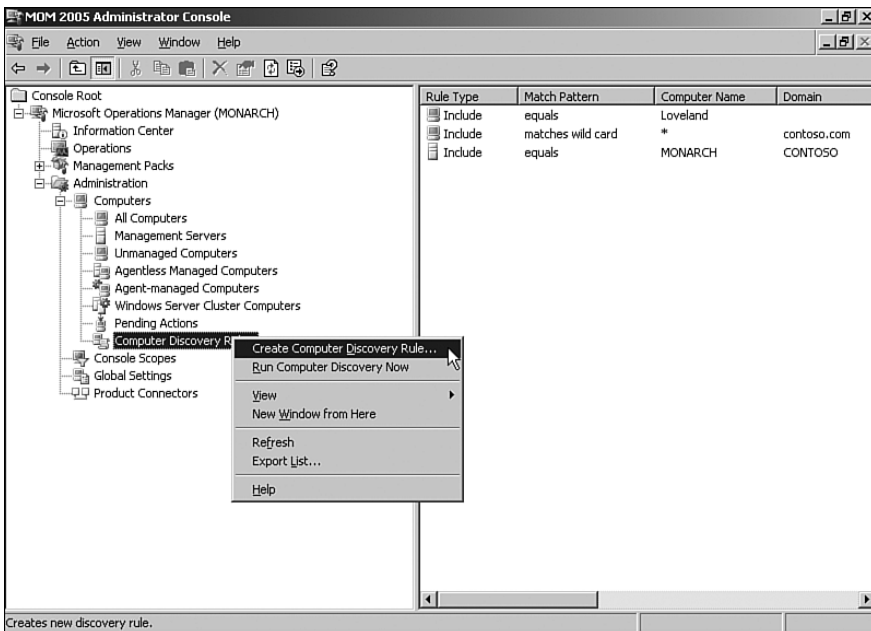

FIGURE 9.1 Creating computer discovery rules.
3. In the console tree (Navigation pane), right-click Computer Discovery Rules and choose Create Computer Discovery Rule, as shown in Figure 9.1.